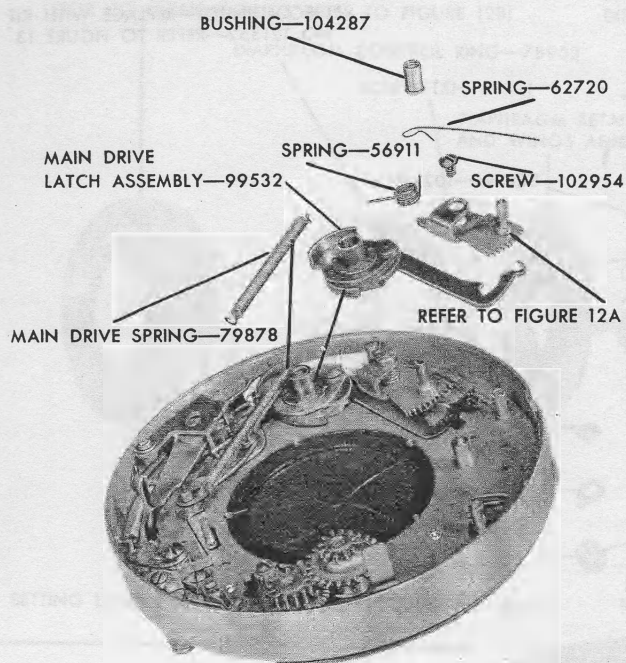

Figure 7
10. Blade controller LATCH SPRING BUSHING, figure 7, and the LATCH SPRING.